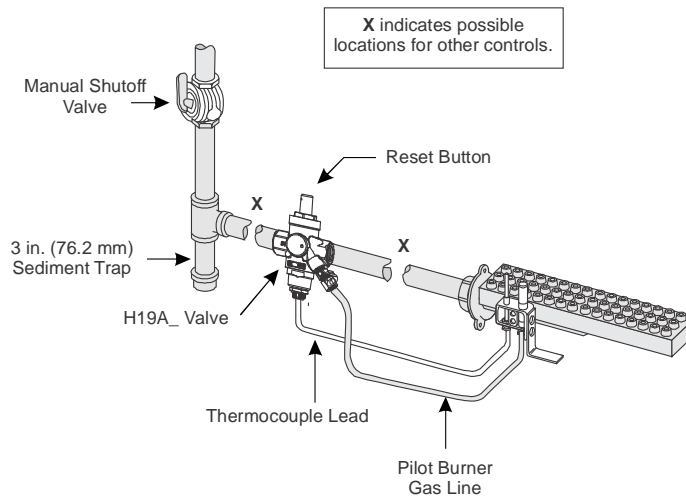
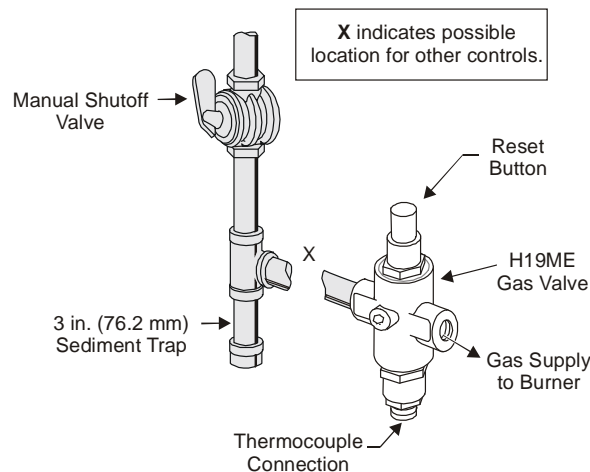

Figure 1: Typical H19A_ Installation
Figure 2: Typical H19ME Installation
4. Mount the valve to the pipework. The H19 valve may be mounted in any convenient position. Use an approved pipe joint sealing compound on male threads before assembling. Remove excess compound after mounting the valve to the pipework. Threads of the pipe and nipples must be smooth and free of tears and burrs. Steam clean all piping to remove foreign substances such as cutting oil or thread chips. A sediment trap should also be installed in accordance with the National Fuel Gas Code (Z223.1/NFPA 54). See Figure 1 and Figure 2.